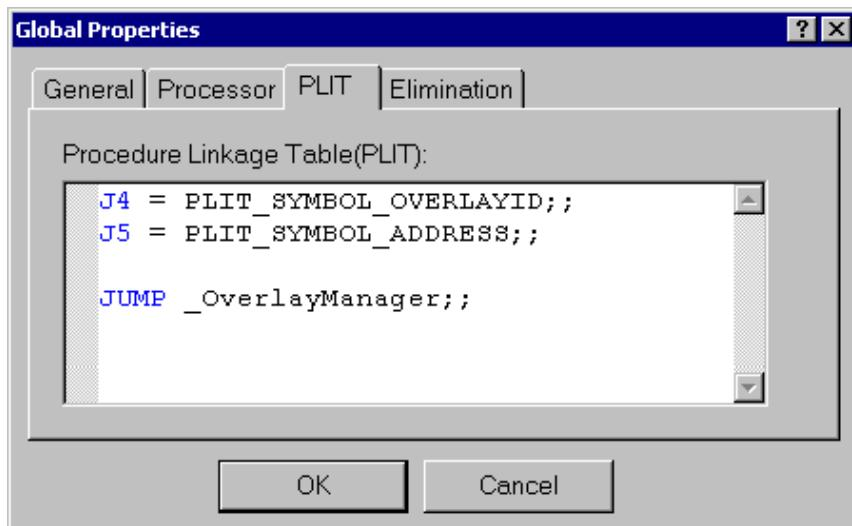

Figure 4-45. PLIT Page of the Global Properties Dialog Box
3. Click the **PLIT** tab (Figure 4-45).